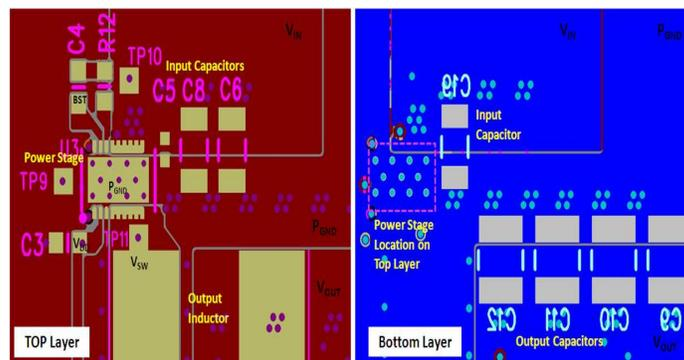

Figure 16. Recommended PCB Layout (Top Down View)
- The placement of the input capacitors relative to  $V_{IN}$  and  $P_{GND}$  pins of CSD97396Q4M device should have the highest priority during the component placement routine. It is critical to minimize these node lengths. As such, ceramic input capacitors need to be placed as close as possible to the  $V_{IN}$  and  $P_{GND}$  pins (see Figure 16). The example in Figure 16 uses 1 x 1 nF 0402 25 V and 3 x 10  $\mu$ F 1206 25 V ceramic capacitors (TDK Part # C3216X5R1C106KT or equivalent). Notice there are ceramic capacitors on both sides of the board with an appropriate amount of vias interconnecting both layers. In terms of priority of placement next to the Power Stage C5, C8 and C6, C19 should follow in order.
- Use the smallest drill size allowed in your design. The example in Figure 16 uses vias with a 10 mil drill hole and a 16 mil capture pad.